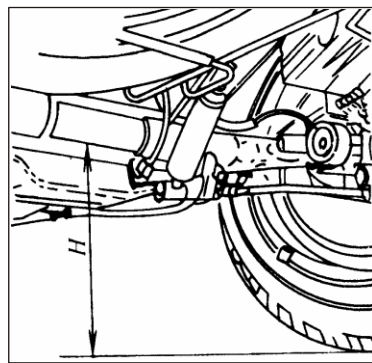

Figure 4-51 Inspect Rear Body Height
(2) Height inspection Rear body height of the vehicle refers to the distance from the ground to $\phi 58\text{mm}$ tubular rear axle, as shown in Figure 4-51. Its standard value $H=465\text{mm}$, both heights of left and right sides shall be less than 10mm.